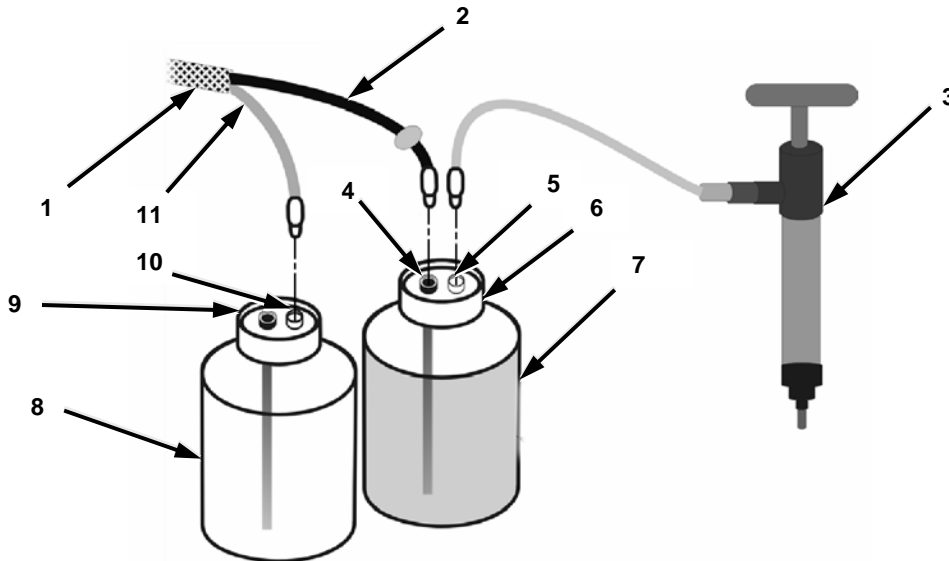

**Figure 2-28. Release Tether for Charging MCU.**
7. Disconnect MCG (1) from latch tether (2).
Step 1 below applies to Figure 2-28.
1. Connect release tether (2) to MCU (1).